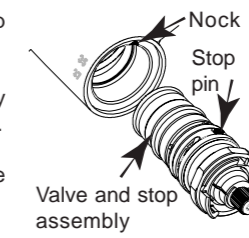

Fig. 8
- Install the assembly cartridge + stop in the body, adjusting the stop pin in the notch (fig. 8).
- Check that the black line is correctly in line with the slot (fig. 8).